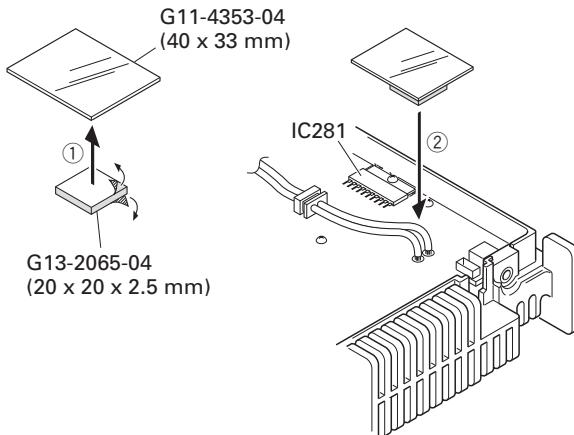

Fig. 3
5. Affix the 20 x 20 x 2.5 mm pad to the 40 x 33 mm transparent sheet, then attach it to the TX-RX unit printed area as shown in Figure 3.